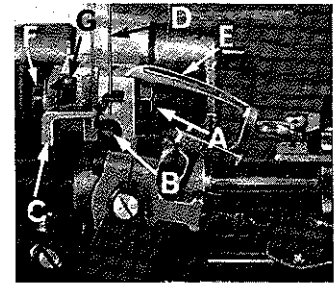

Fig. 14
If feed dog teeth are not parallel with the throat plate, loosen nut (A, Fig. 14) and turn screw (B) clockwise to lower the front teeth and counterclockwise to raise the front teeth. Retighten nut when feed dog is set properly.